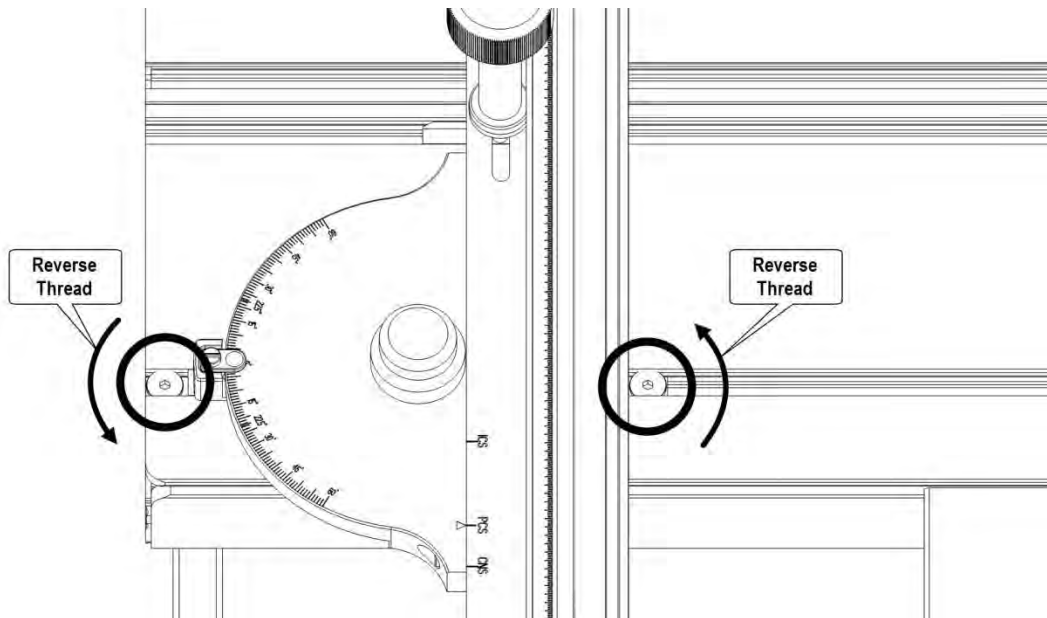

Fig. 11
14. Slide the miter gauge bar (249) into the T-slot on the sliding table top nearest the blade, as shown in **Fig. 11**. For full cutting capacity, the miter gauge bar should be positioned flush with the front edge of the sliding table. Use a 5mm wrench to turn the **reverse-thread** fasteners (248) at the front and rear of the miter gauge bar COUNTERCLOCKWISE to lock the miter gauge bar in place.